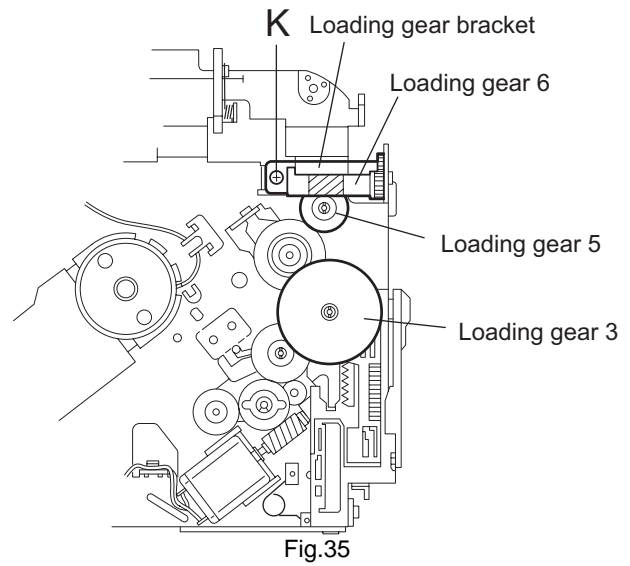

Fig.35
2.2.16 Removing the loading gear 5, 6 and 7 (See Figs.35 and 36)
- Pull out the loading gear 3. (See Fig.35.)
- (1) Pull out the feed gear.